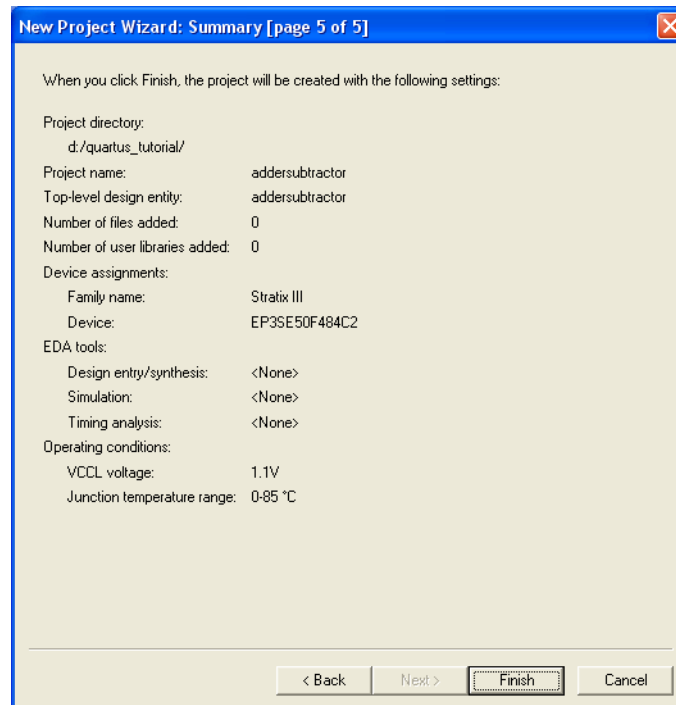
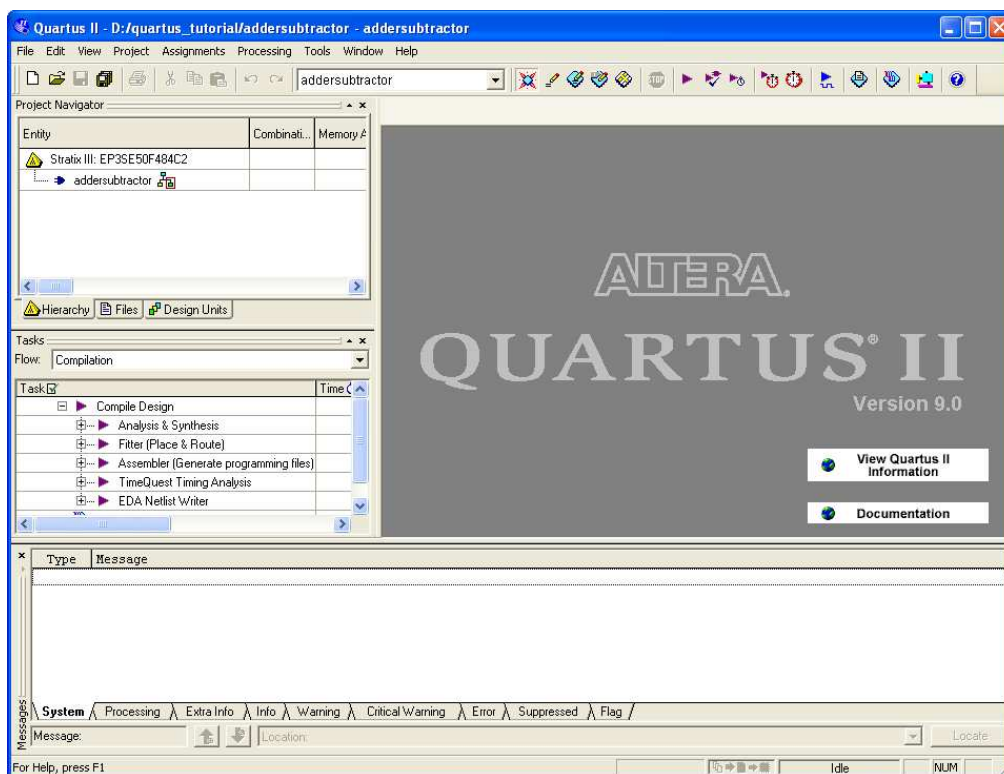

Figure 9: Summary of the project settings.
Figure 10: The Quartus® II display for the created project.
5. In this window we can specify any third-party tools that should be used. A commonly used term for CAD software for electronic circuits is *EDA tools*, where the acronym stands for Electronic Design Automation. This term is used in the Quartus® II messages that refer to third-party tools, which are the tools developed and marketed by companies other than Altera®; other tutorials show how such tools may be used. Since we will rely solely on the Quartus® II tools, we will not choose any other tools. Press **Next**. Now, a summary of the chosen settings appears in the screen shown in Figure 9. Press **Finish**, which returns to the main Quartus® II display. Note that *addersubtractor* is now specified as the current project, as indicated in the title bar at the top of the display. The screen should look similar to that of Figure 10.